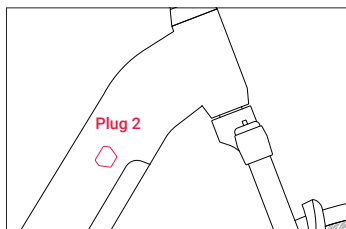

Figure 2
**Step 3:** Remove the rubber cover on the charging socket and insert the DC plug (Plug 2) of the charger into the battery charging socket (fig. 2).